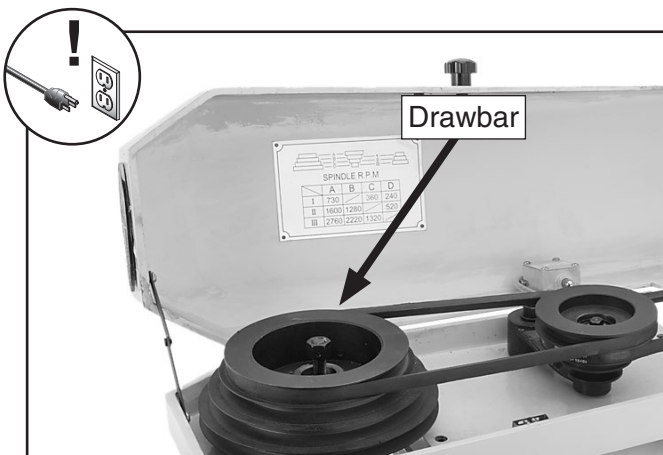

Figure 33. Drawbar inserted through the top of the spindle.
3. Open the V-belt cover, rotate the adjustment hex nut to the top of the drawbar, then place the drawbar through the top of the spindle (see **Figure 33**).